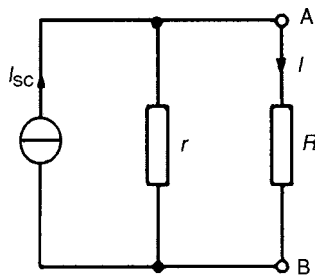

Figure 13.53
Note the symbol for an ideal current source (BS 3939, 1985), shown in Fig. 13.53
- (iv) determine the current I flowing in resistance R from the Norton equivalent network shown in Fig. 13.53, i.e.